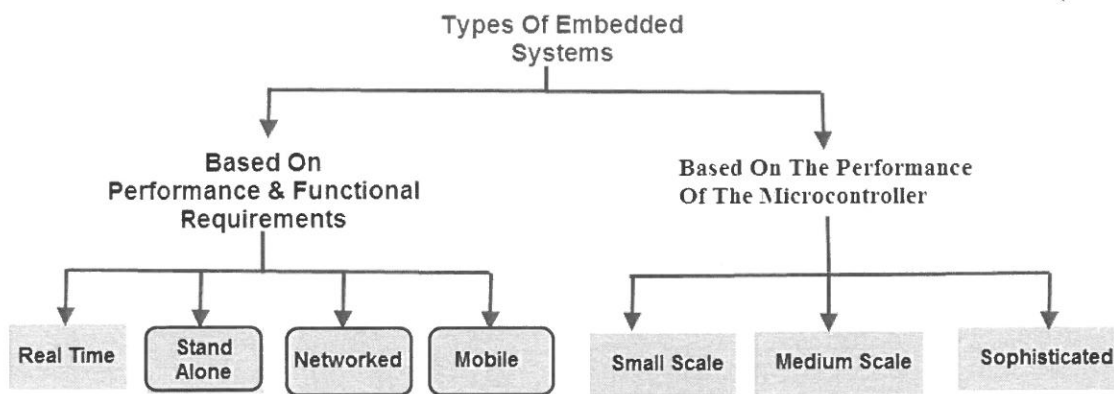

Figure 4(a) Types of Embedded System.
- (b) Figure 4(b-1) shows the serial communication settings between the transmitter and receiver. Both of the PIC16F877A transmitter and receiver's settings are identical. The transmission uses asynchronous serial data communication (UART) with **LSB** being transmitted first to transmit a passkey to the receiver. Figure 4(b-2) shows the incoming data received at the receiver's side. (7 marks)